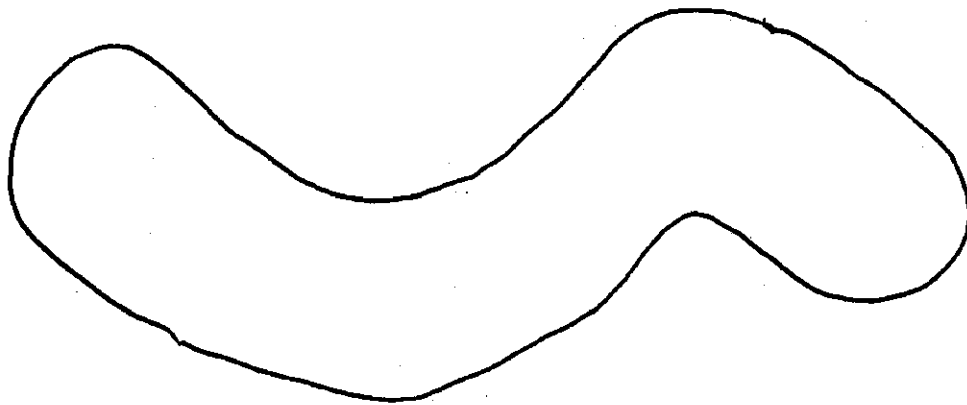

Fig. 9.4. Typical Smear Pattern
3. Hold the smear on the edge with your thumb and index finger and rub it lightly over the surface. Smear an area of about 150 cm^2 in an S-shape as shown in Fig. 9.4. Approximately 10% of the loose contamination will be picked up by the smear paper.